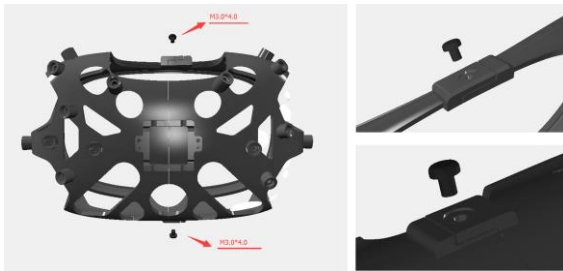

Figure 17 - Connect the two halves using the supplied (short) screws.
4. Slide marker holder pieces over VIVE as indicated in Figure 17.